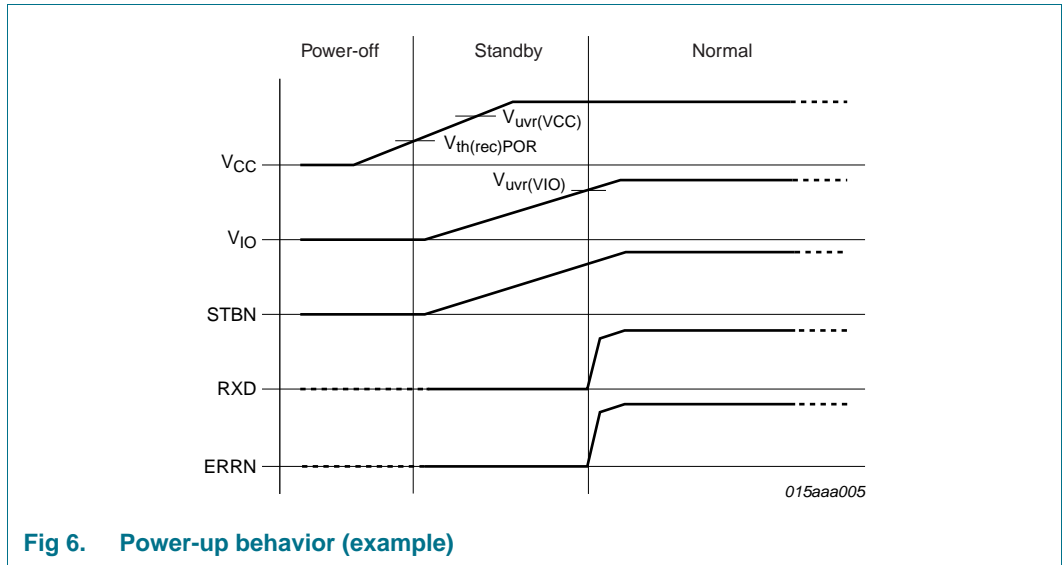

Fig 6. Power-up behavior (example)
- [6]  $V_{CC} < V_{th(rec)POR}$  at power-up and  $V_{CC} < V_{th(det)POR}$  at power-down (see Figure 6 and Figure 7).
As an example, Figure 6 shows one possible power supply ramp-up scenario. The digital section of the TJA1082 is supplied by  $V_{CC}$ . The voltage on pin  $V_{CC}$  ramps up before the voltage on pin  $V_{IO}$ . As long as the voltage on  $V_{CC}$  remains below the power-on reset recovery threshold,  $V_{th(rec)POR}$ , the internal state machine is not active and the transceiver is totally passive, remaining in Power-off mode. As soon as the voltage crosses the  $V_{th(rec)POR}$  threshold, the internal state machine starts running, setting the PWON flag and switching the TJA1082 to Standby mode. This initializes the  $V_{CC}$  and  $V_{IO}$  under-voltage flags to the set state (since both  $V_{CC}$  and  $V_{IO}$  are actually in undervoltage state just after power-on).